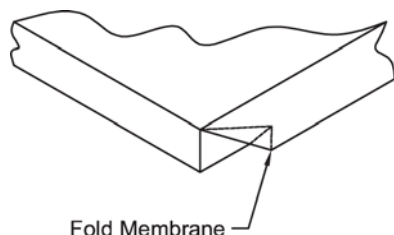

Figure 6
- Fold all four corners of the membrane roofing material over the walk-in corners as shown in Figure 6.